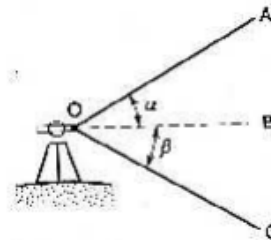

Fig.4 Measurement of Vertical Angle
1) Let $\angle AOB$ is to be measured (Fig.4):
2) Let $\angle AOC$ is to be measured (Fig.4):